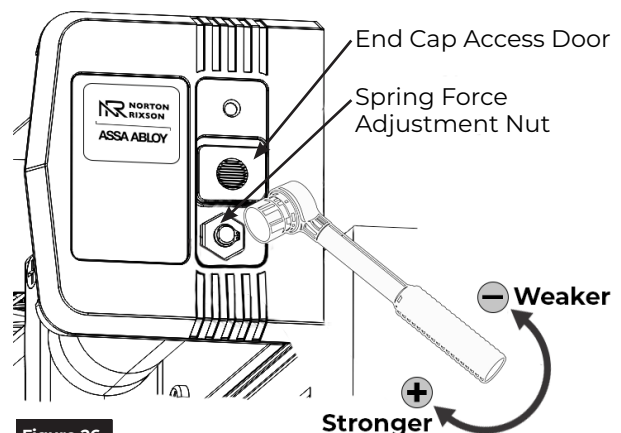

Figure 26
3. Using a ratchet with an 11/16" socket, turn the nut in end of closer body tube clockwise to increase or counterclockwise to decrease force until the desired setting is reached. (Figure 26)